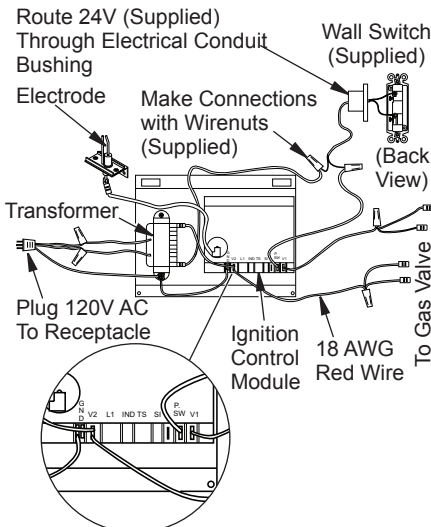
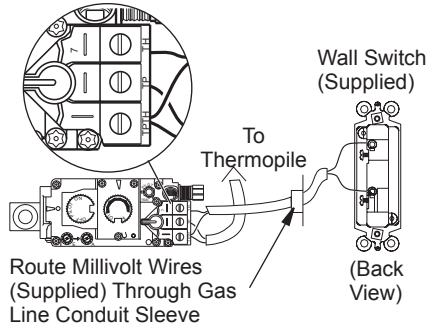

Figure 34 - Wall Switch Wiring Diagram, Electronic Units
Figure 35 - Wall Switch Wiring Diagram, Millivolt Units
Since the (V)DVf36TPNEA/TSTEA series uses a 24 VAC current supplied from a transformer mounted on the ignition module and is prewired for easy connection to a wall switch (see Figure 34). The (V)DVf36TPNA/TSTA models use a self generated millivolt current that allows you to activate the gas control valve directly without the use of normal household electricity (see Figure 35). Both versions are supplied with a wall switch kit for ready connection and mounting.
2. Disconnect wall switch wires from terminals marked TH and TPTH (see Figure 35, page 21).
2. If a wall switch was installed, it must be removed from ignition control circuit for remote to work properly. Remove wire nuts from switch connection at ignition control module. Using wire nut, connect transformer (blue) wire to remaining wire connected to control terminal marked P.S.W (see Figure 34, page 21).